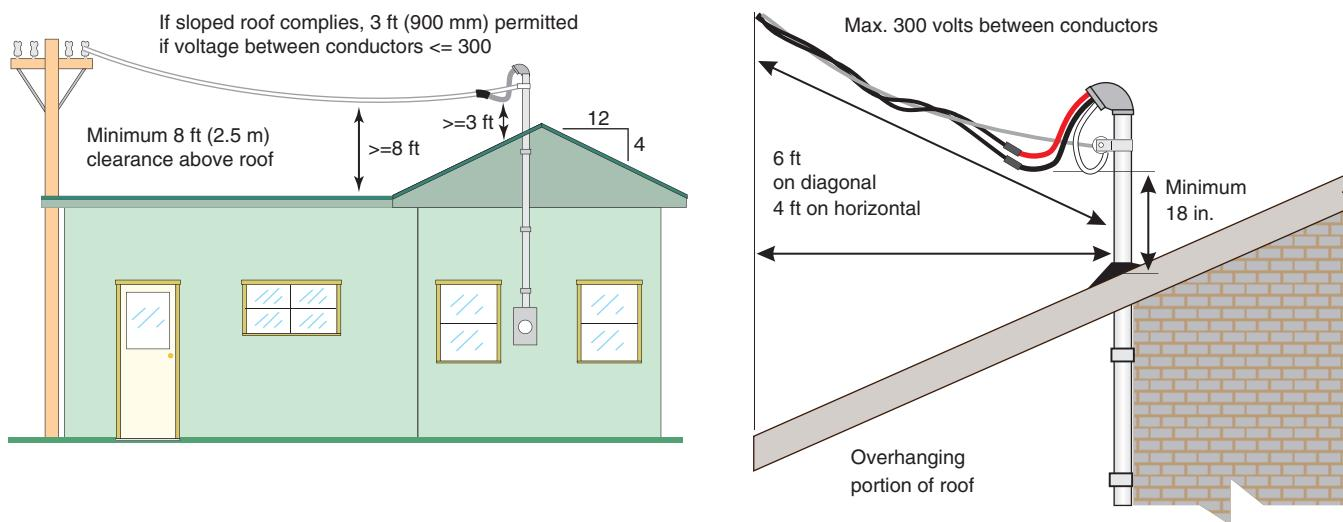

FIGURE 27-4 Clearances of overhead service conductors over roofs. (*Delmar/Cengage Learning*)
Clearance above Roofs: Consult the electric utility that will serve the residence. *NEC* 230.26 requires that the point of attachment is to provide for the clearances in *NEC* 230.24(A) for overhead service conductors. The utility service drop is treated as an equivalency to the customer's overhead service conductors. See Figure 27-4.